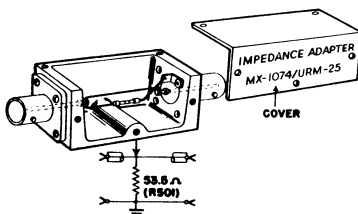

Figure 2-10. Impedance Adapter MX-1074/URM-25
f. When the 52 ohm cable assembly (W-104) is plugged into the X MULT RF OUTPUT jack (J-102), and terminated properly (53.5 ohms -no standing waves will be present. An IMPEDANCE ADAPTER MX-1074/URM-25 consisting of a 53.5 ohm composition resistor (R-501) contained in a rectangular aluminum case (See figure 2-10) is supplied with the equipment. This unit has one UG-185/U connector at each end and is inserted between the receiver under test and the receiver end of cable W-104 when the receiver load impedance is at least ten times the generator output impedance (i.e. approximately 500 ohms).